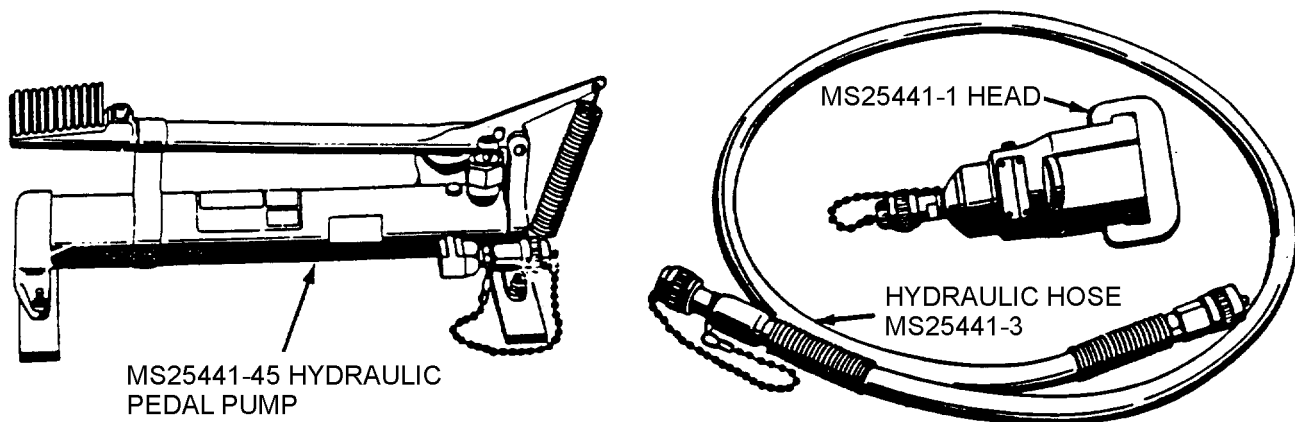

Figure 53. MS25441 Terminal Crimp Tool
- b. Go gage should freely pass through die (Figure 53).
c. No Go -gage should not pass through die (Figure 53).
- a. Select proper tool (Figure 53).